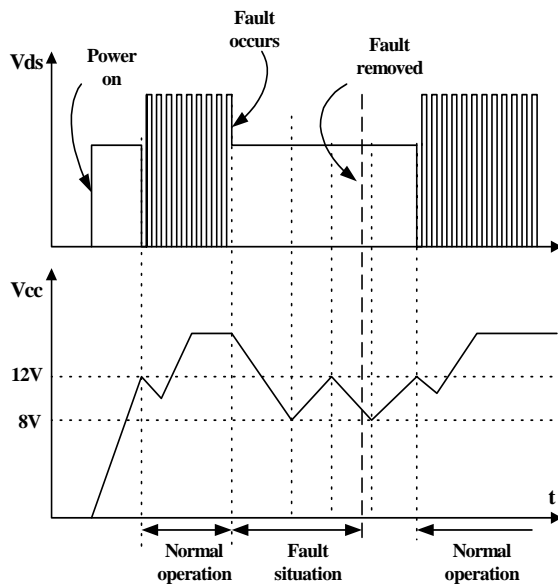

Figure 7. Auto restart operation
**3. Protection Circuit :** The FSCM0565R has several self protective functions such as over load protection (OLP), over voltage protection (OVP) and thermal shutdown (TSD). Because these protection circuits are fully integrated into the IC without external components, the reliability can be improved without increasing cost. Once the fault condition occurs, switching is terminated and the Sense FET remains off. This causes Vcc to fall. When Vcc reaches the UVLO stop voltage of 8V, the current consumed by FSCM0565R reduces to the startup current (typically 25uA) and the current supplied from the DC link charges the external capacitor ( $C_a$ ) that is connected to the Vcc pin. When Vcc reaches the start voltage of 12V, FSCM0565R resumes its normal operation. In this manner, the auto-restart can alternately enable and disable the switching of the power Sense FET until the fault condition is eliminated (see Figure 7).